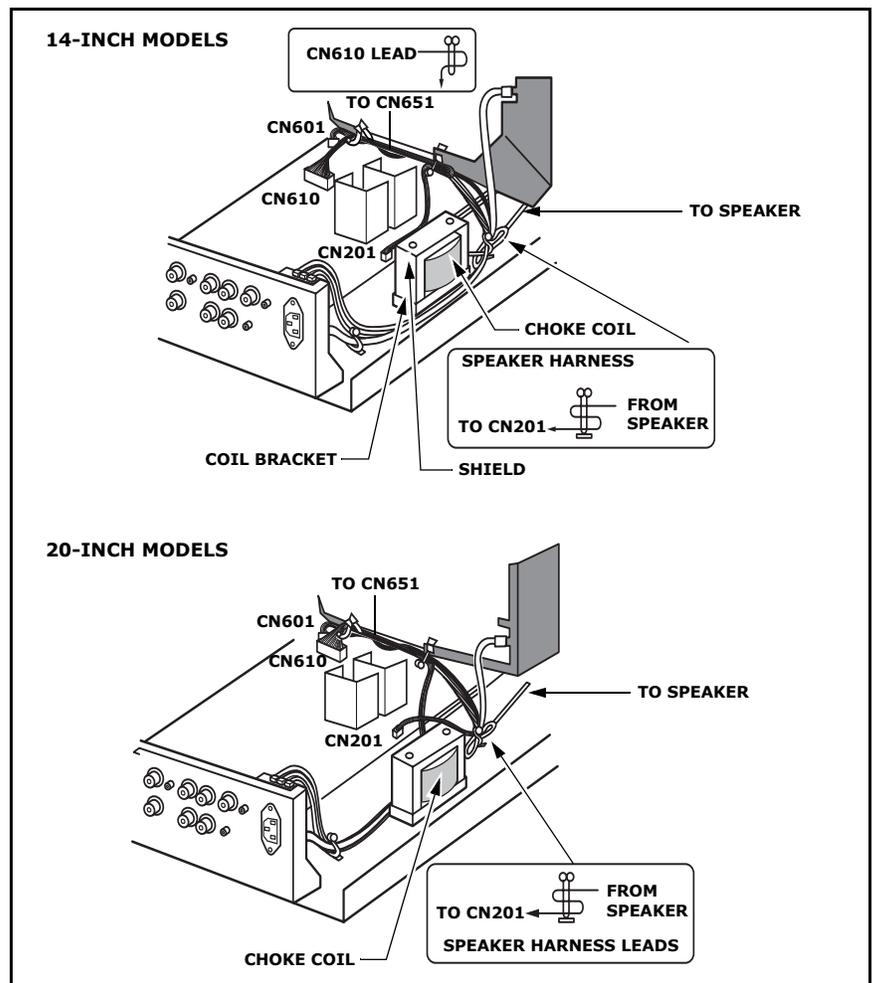

Figure 2
3. Route leads as shown in Figure 2.